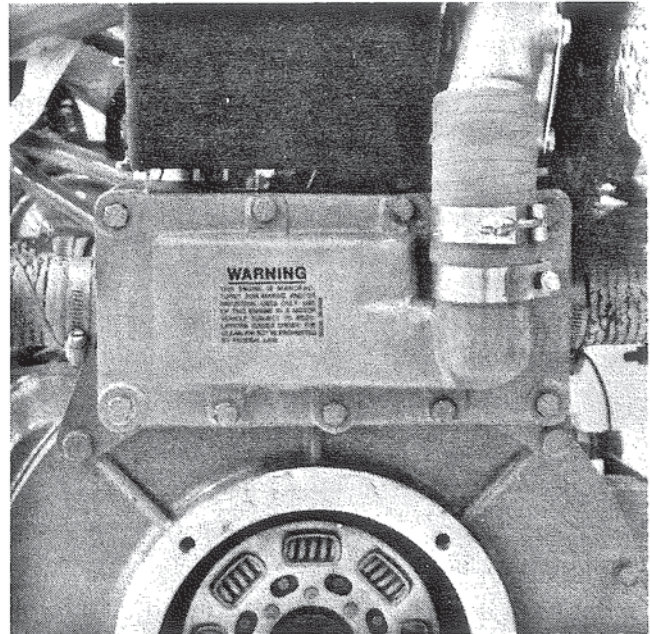

Figure 6. Removing Intercooler.
Removal. Disconnect hoses and remove two (2) capscrews securing intercooler to flywheel housing. Figure 6.